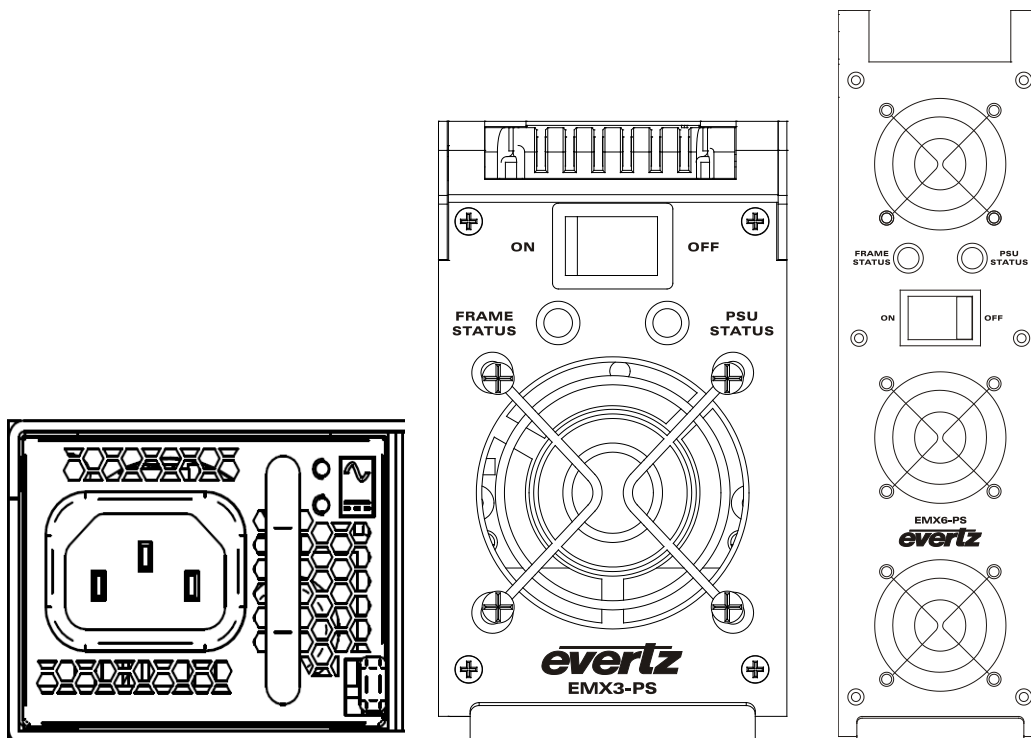

Figure 2-4: EMX1-PS, EMX3-PS & EMX6-PS Status Indicators
- Figure 2-4: EMX1-PS, EMX3-PS & EMX6-PS Status Indicators 6
EMX1-FR power supplies have 2 LEDs which are located on the rear side of the frame, showing the status of each supply. Top LED is green and indicated AC power is on or off. Bottom LED is bi-colored: green and yellow. This indicated DC power presence or fault situations. For the position of LEDs see Figure 2-4. The following table shows different LED states: